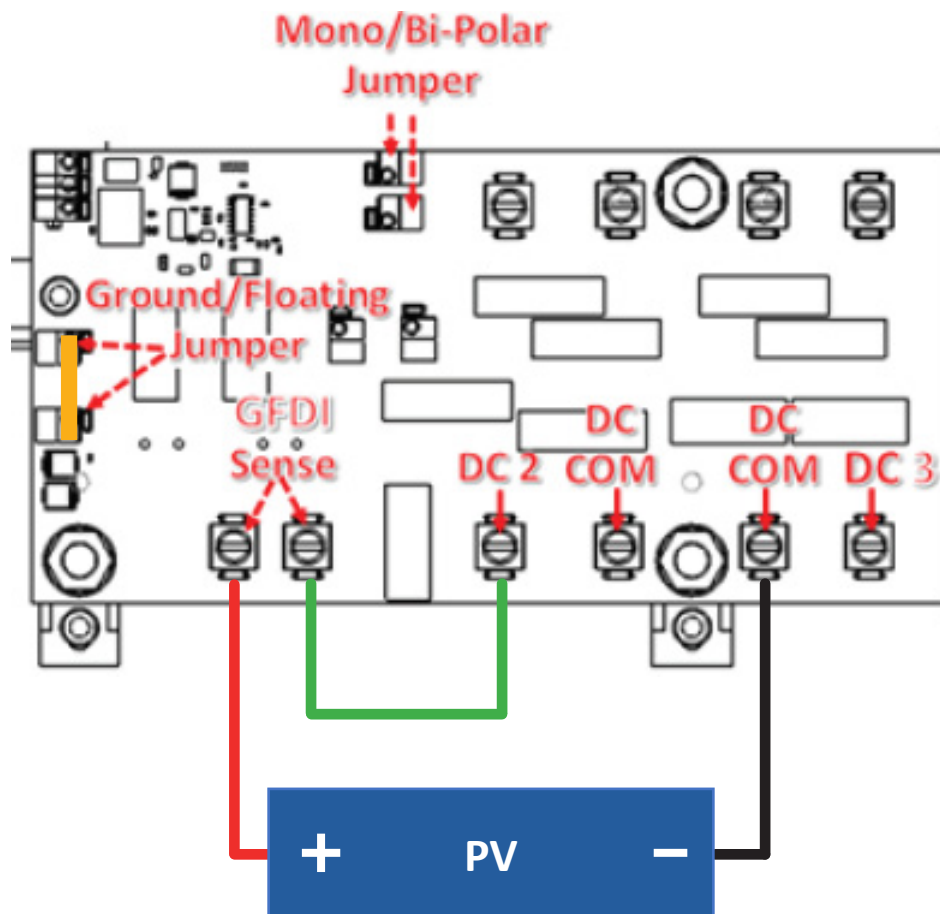

Figure 3. Positive Ground Referenced monopole
3. Positive ground Referenced Monopole - Figure 3